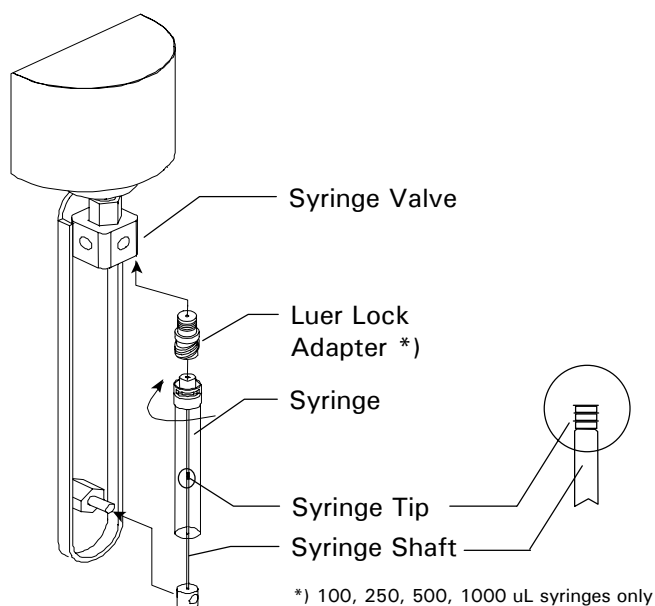

FIGURE 6-1. Replacing the syringe
- Unscrew the top of the syringe (turn clockwise). Pull the syringe down until it releases from the syringe valve. Then pull the syringe towards you and remove it (FIGURE 6-1).